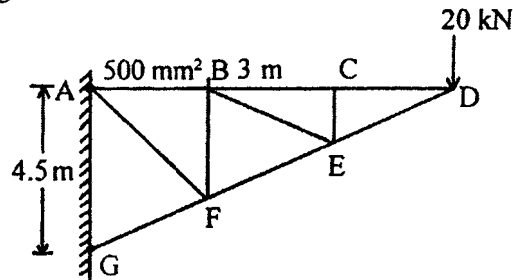

Fig. 1.5
8. Analysis the truss by using method of joints as shown in Fig. 1.5 20